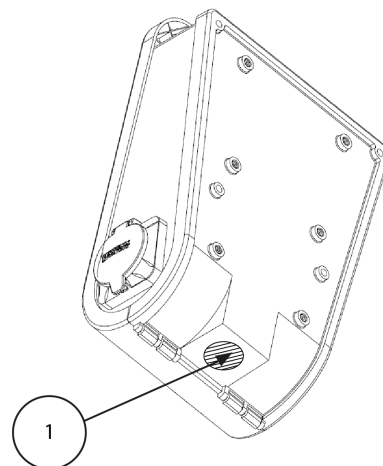

Figure 4 Drill location
Step 2) Drill holes in the wall – Decide mounting position on the wall. Drill four holes according to drawing, see Figure 4.